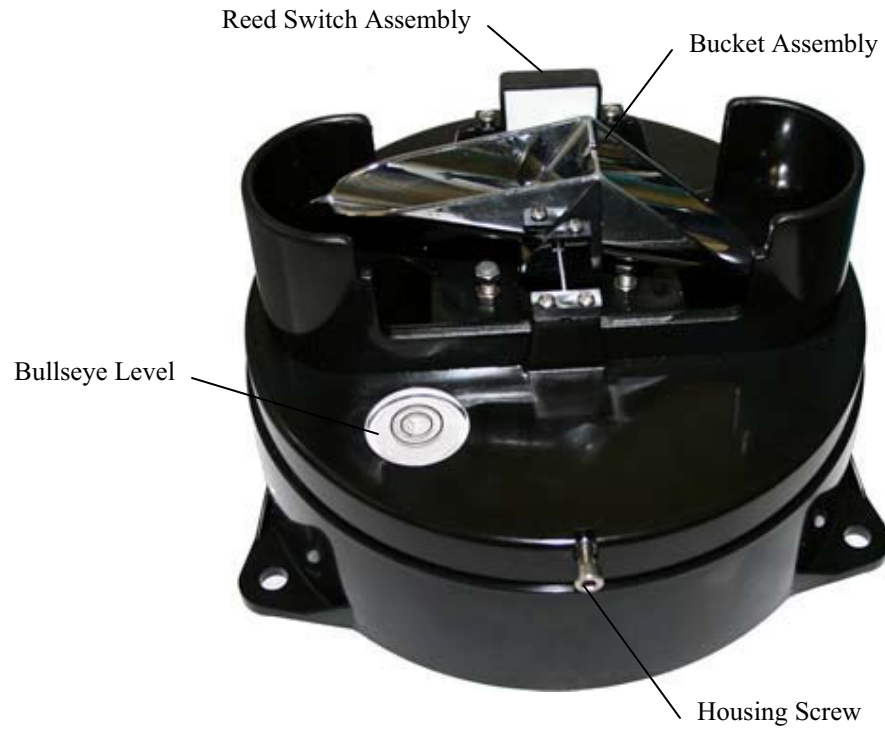

FIGURE 7-1. Components of TB4 Base
- Interior of bucket (see Figure 7-1)
- Top surface of adjusting screws (see Figure 7-1)
- Housing locking screws; lightly lubricate after cleaning (see Figure 7-1)
- All insect screens (see Figure 7-1)